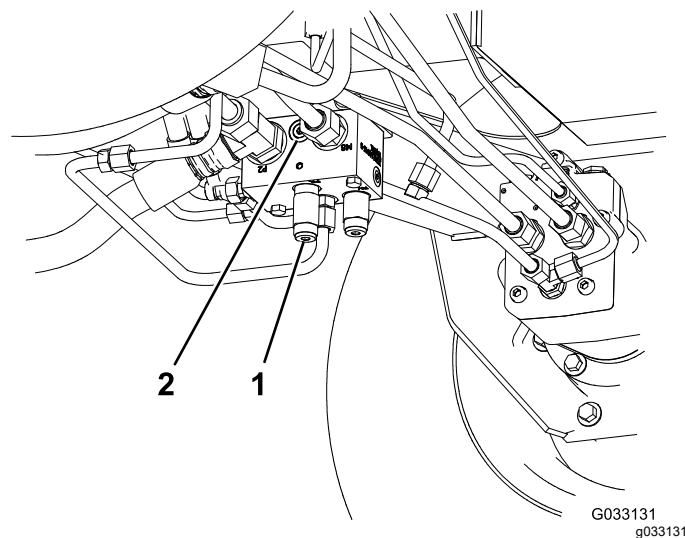

Figure 75
- Toro Part No. 95-0985, coupler fitting (2)
- Toro Part No. 340-77, hydraulic fitting (2)
1. Install a diagnostic fitting in the unmarked port located between ports M8 and P2 on the rear traction manifold (Figure 75).